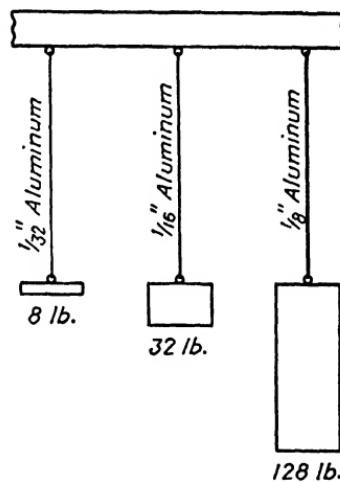

Fig. 208.
B. Demonstration 2. Take three wires, all aluminum, of these diameters: $\frac{1}{32}$ in., $\frac{1}{16}$ in., $\frac{1}{8}$ in., and suspend them as shown in Fig. 208.
Notice that the greater the diameter of the wire, the greater is its tensile strength. Using the data in Fig. 208, complete the following table in your own notebook.